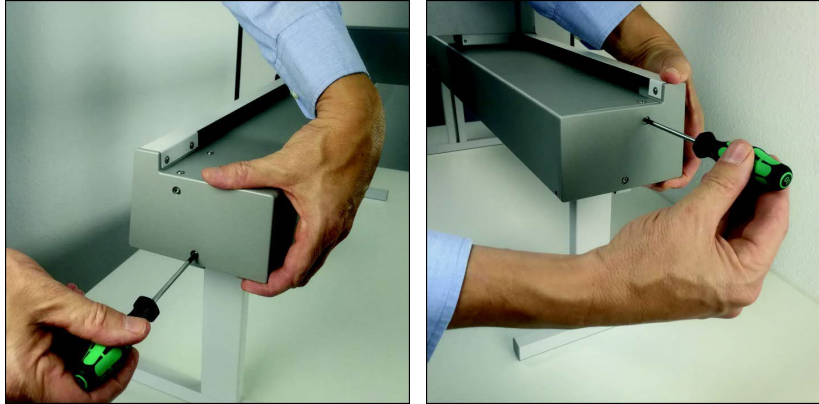

Figure 114: X-beam Front Cover Assembly 3
3. Using a Torx Tx10 screwdriver, fasten the left and right side covers using two screws for each side as demonstrated Figure 114.